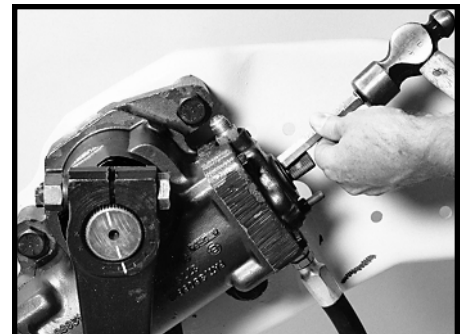

Figure 28
- 2.9 Install the new dirt and water seal (4) onto the input shaft (17) with the part number facing out. Use tool J26654 or a suitable blunt-ended drift to press the seal into its counter bore. SEE FIGURE 28. If the new seal has a sealing lip on the O.D., it must be against the valve housing (9) face. If the new seal does not have a lip on the O.D., the outer end of the seal must be flush with valve housing face.